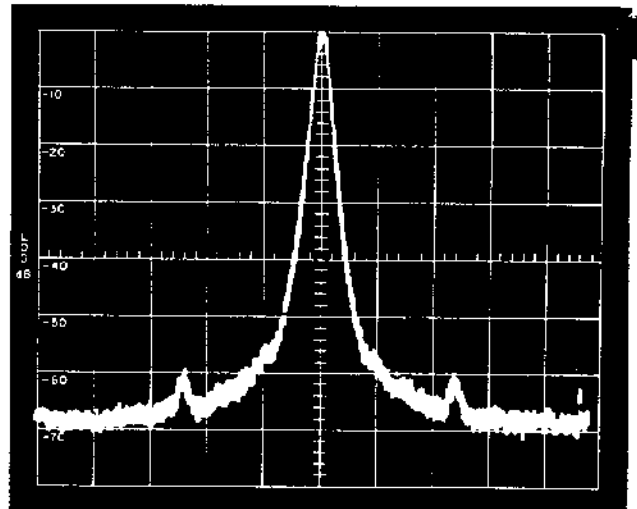

Figure 5-34. Typical Response,
- (27) Set the receiver rear panel CLOCK switch to INT and turn the unit on.
- (28) Refer to Figure 5-34 for a typical response.
- (29) Set the spectrum analyzer controls to the conditions given in column B of step (26).